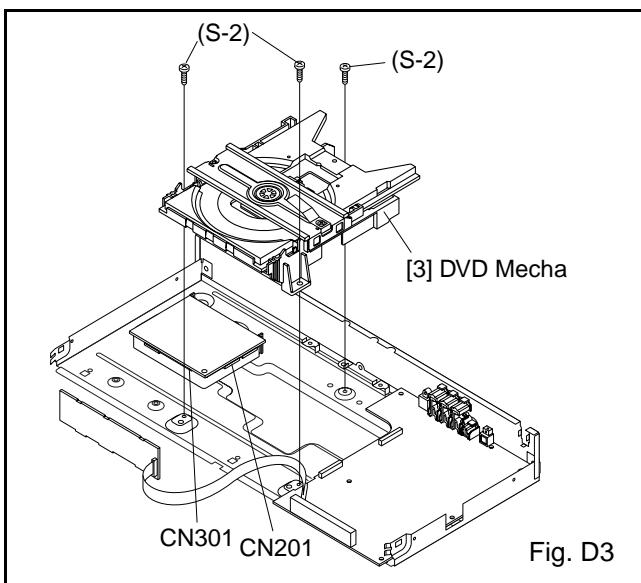

Fig. D3
- 2-1. Disconnect Connector (CN301). Remove three Screws (S-2) and lift the DVD Mecha. (Fig. D3)